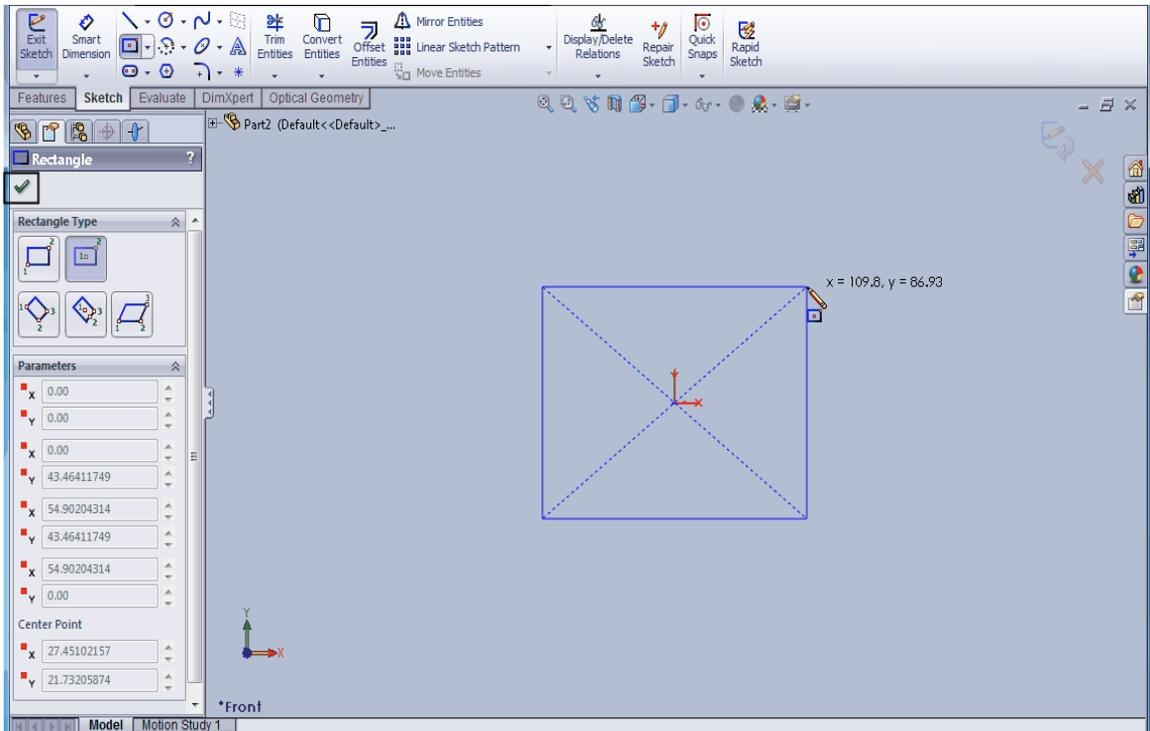

Figure 41 Forming a rectangle
- 6 Click the origin and move the pointer in a diagonal direction to form a rectangle that is approximately 100mm long, and click the pointer (the exact length does not matter at this time). See Figure 41.